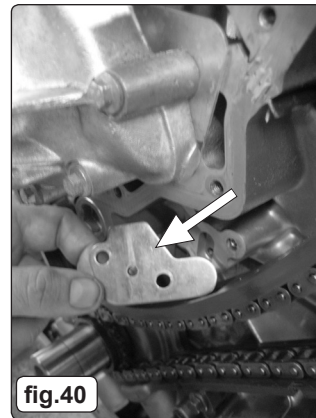

fig.40
**NOTE:** When installing the primary chain tensioners, ensure that both the back plate and tensioner unit are re-fitted (fig.40), (the back plate creates the seal for the tensioner unit).